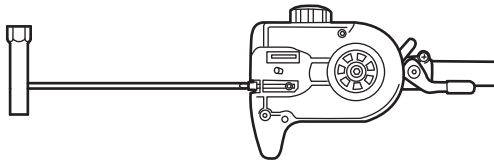

Fig. 7c
- d). Ensure that the tension pin (D11) is adjusted to its far right position. If not, turn the tension screw (D12) anticlockwise with the slotted screwdriver (F4). (See Fig. 7c)